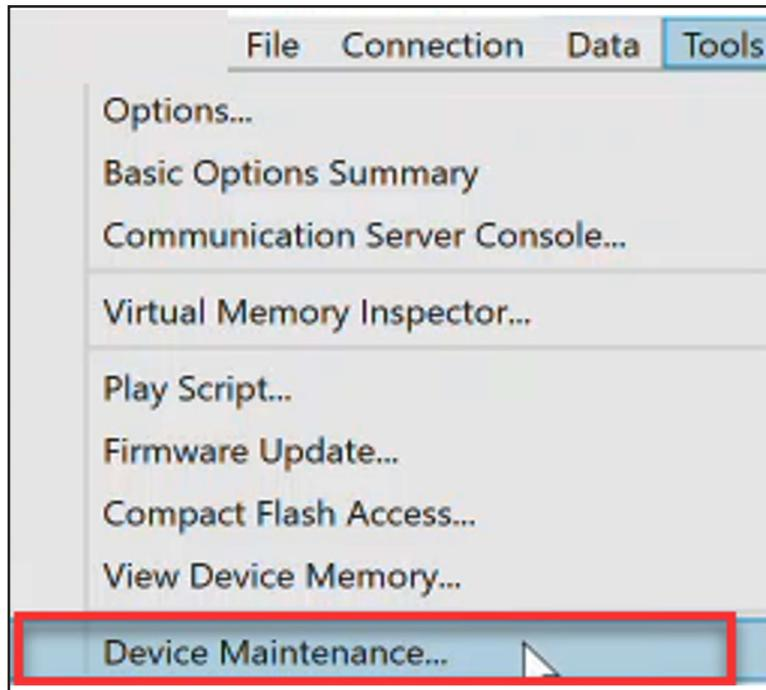

Figure 63. The Tools>Device Maintenance menu item.
- STEP 2.** Click on the **Tools>Device Maintenance** menu item. See Figure 63.